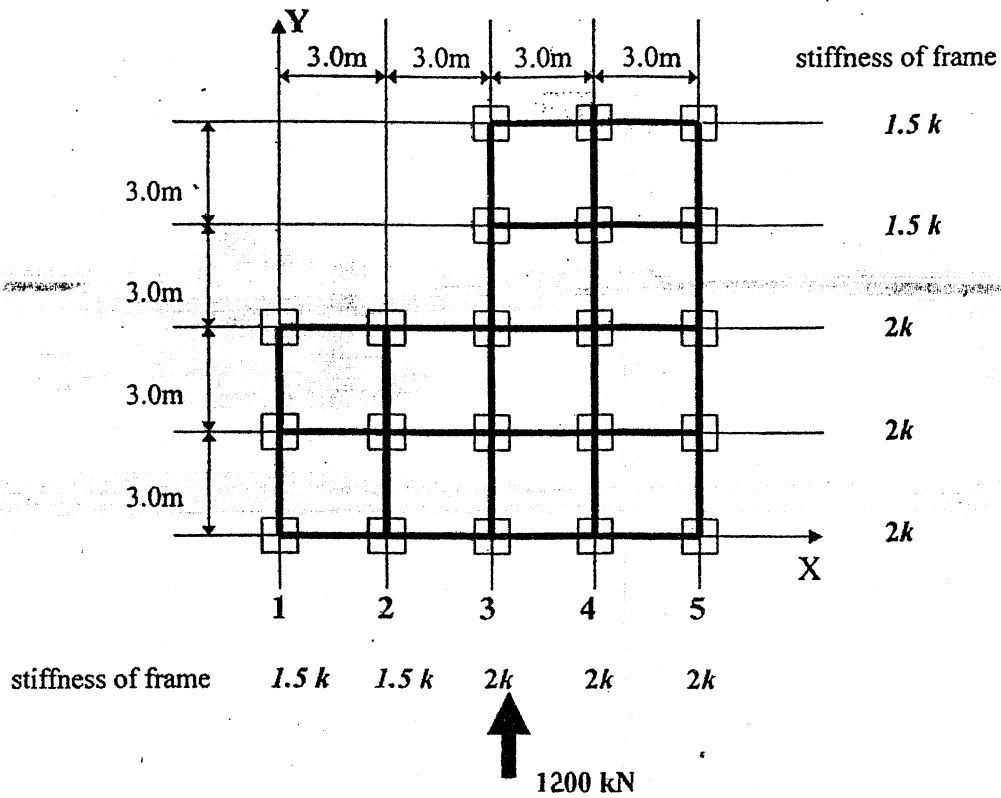

Figure 4: Plan of the building
- b) The figure given below (figure 4) shows the plan of an one-storey building which could be considered as composed of 2-D frames along the orthogonal directions. The roof diaphragm is rigid in its own plane, and the mass of the roof is uniformly distributed. The building is subjected to a lateral load of 1200 KN, due to earthquake, in y-direction and passing through the center of mass of the building. Calculate the lateral forces in the 2-D frames along X as well as Y directions.